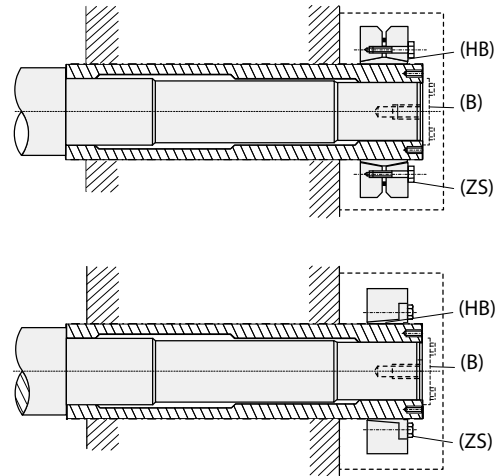

Fig. 11 Full Mounted Position
The shrink disc has a keyless, shrink fit mechanism that shrinks the hub (HB) mechanically through the tightening locking bolt (ZS), and holds shaft and hub as one fixture (Fig. 11).
- (1) Clean and degrease contact surfaces (a) and (c).
- (2) Smear surface (c) and (ZS) with "Molykote 321" or its equivalent. However, keep surface (a) as clean as possible (no grease).
- (3) Slide O-ring (b) onto the shaft. (only 9090 - 9115)
- (4) Mount the reducer on the driven shaft and screw nut (e) until faces (g) and (h) make contact.
- (5) Set the shrink disc (k) at dimensions (LV). Tighten locking bolt (ZS) to specified torque (TA) (using a torque wrench). Make sure that both plates are parallel when tightening bolts. After confirming that the shrink disc is set correctly, tighten the bolts with a wrench of appropriate length. Uniformly, tighten bolts clockwise (not diagonally) while keeping both plates parallel. It is recommended to tighten respective bolts by 30 degree each time.
**Notes:** a. In case of a vertical type unit, mount a thrust washer (B) to prevent the reducer from moving when locking nut (ZS) is loosened (Fig. 11).
b. A high-tension bolt (JIS/ISO/ASTM strength 10.9 or 12.9) is used as a locking bolt (ZS). When replacing it, use one specified by the manufacturer.